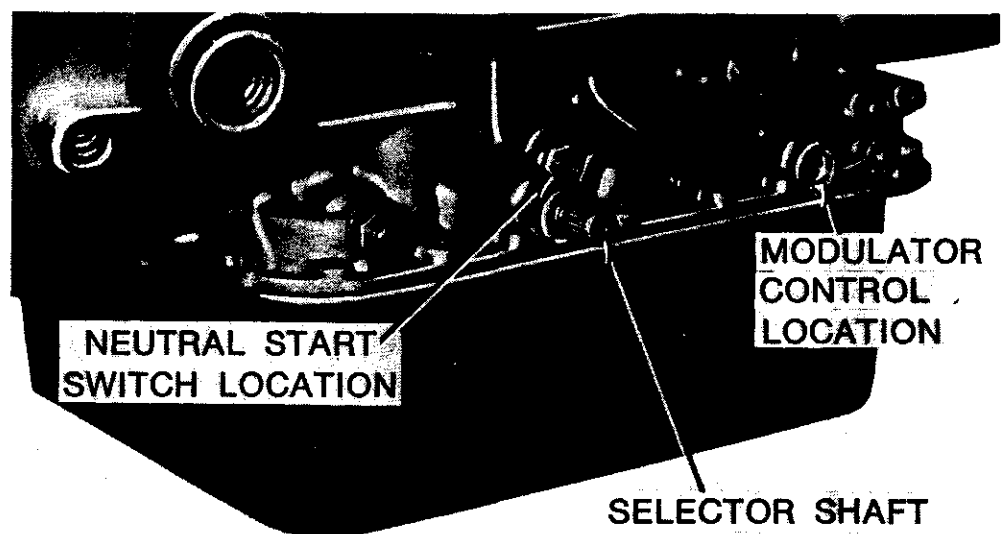

Fig. 4-6. Partial view of transmission left side
- Install the modulator actuator rod into the modulator valve body, through the modulator mounting hole in the transmission housing (fig. 4-6).
- Install the neutral start switch (if so equipped) into the opening in the left side of the transmission housing (fig. 4-6). The switch must include an aluminum washer (gasket) approximately 0.090 inch (2.29 mm) thick. Tighten the switch to 50-60 lb ft (68-81 Nm) torque.